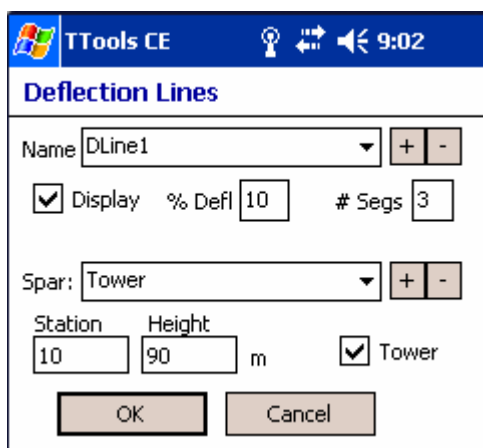

Figure 9.0: Deflection Lines Dialog
3. Choose menu Edit | Deflection Lines to open the dialog box shown in Figure 9.0.